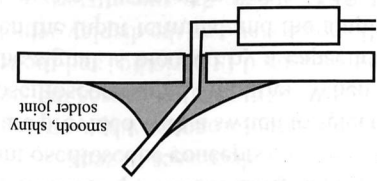

Figure 2.43 Successful solder joint.
- (5) When the surfaces have been heated momentarily, apply the solder to the work (not the soldering iron) and it should flow fluidly over the surfaces. Feed enough solder to provide a robust but not blobby joint. (If the solder balls up on the work, the iron is not hot enough.) Smoothly remove the iron and allow the joint to solidify momentarily. You should see a slight change in surface texture of the solder when it solidifies. If the joint is ragged or dull, you may have a cold joint, one where the solder has not properly wetted the surfaces. Such a joint will not have adequate or reliable conductivity and must be repaired by resoldering. Figure 2.43 illustrates a successful solder joint where the solder has wet both surfaces, in this case a component lead in a metal-imp-hole perforated board.
- (6) If flux solvent is available, wipe the joint clean.
- (7) Inspect your work with a magnifying glass to make sure the joint looks good.